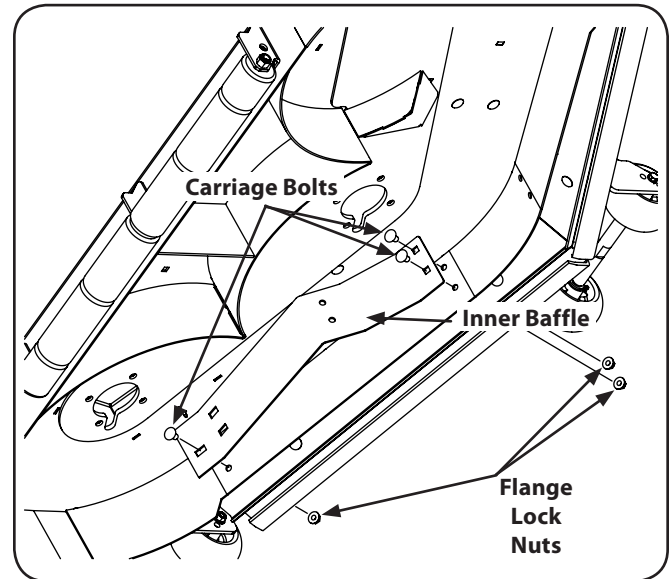

Figure 6-11
1. Remove the carriage bolts and flange lock nuts that secure the baffle to the deck to mow high-volume grasses. See Fig. 6-11.